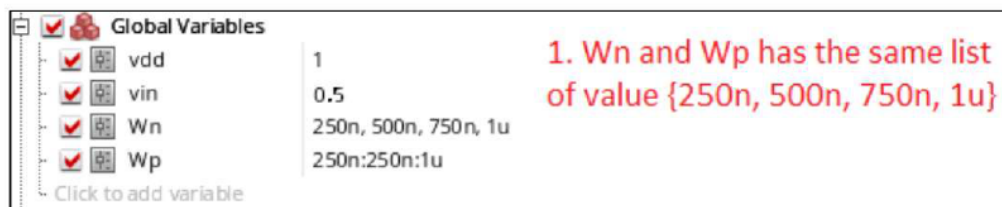

Figure 5. Multiple variables sweep setup
- Multiple variables can also be swept in ADE Explorer. As shown in **Figure 5**, there are two ways to define this, both producing the same results for W at four values: 250nm, 500nm, 650nm, and 1000nm.